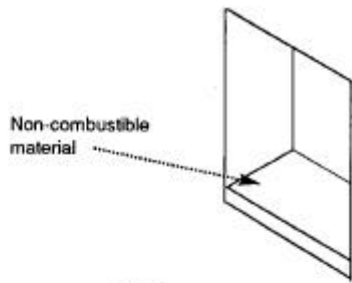

Fig. 2
1. A hearth of non-combustible material must be provided within the fireplace opening on which material the stove stands (where applicable) (Fig. 2).